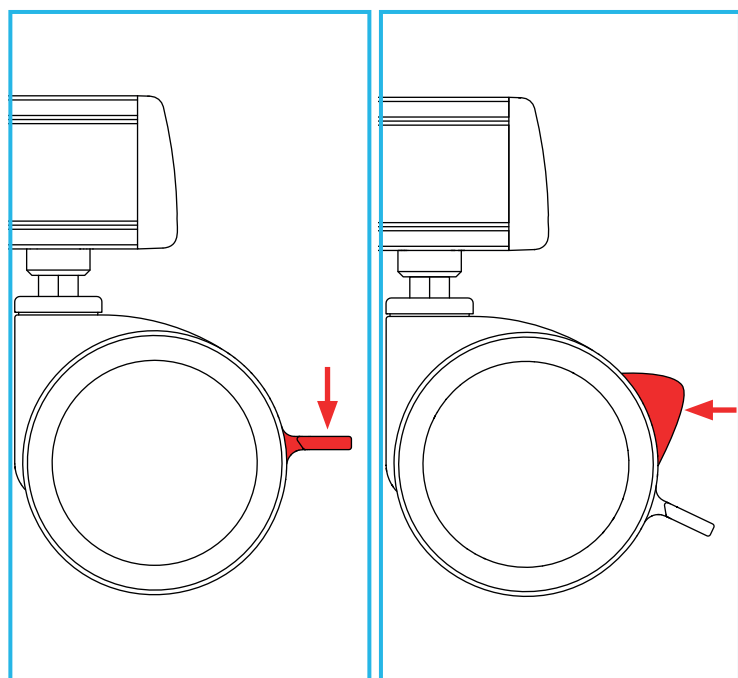

Fig 1: Castor Unlocked **Fig 2: Castor Locked**
1. To lock the castor brake, press down on the castor tab (Fig 1).